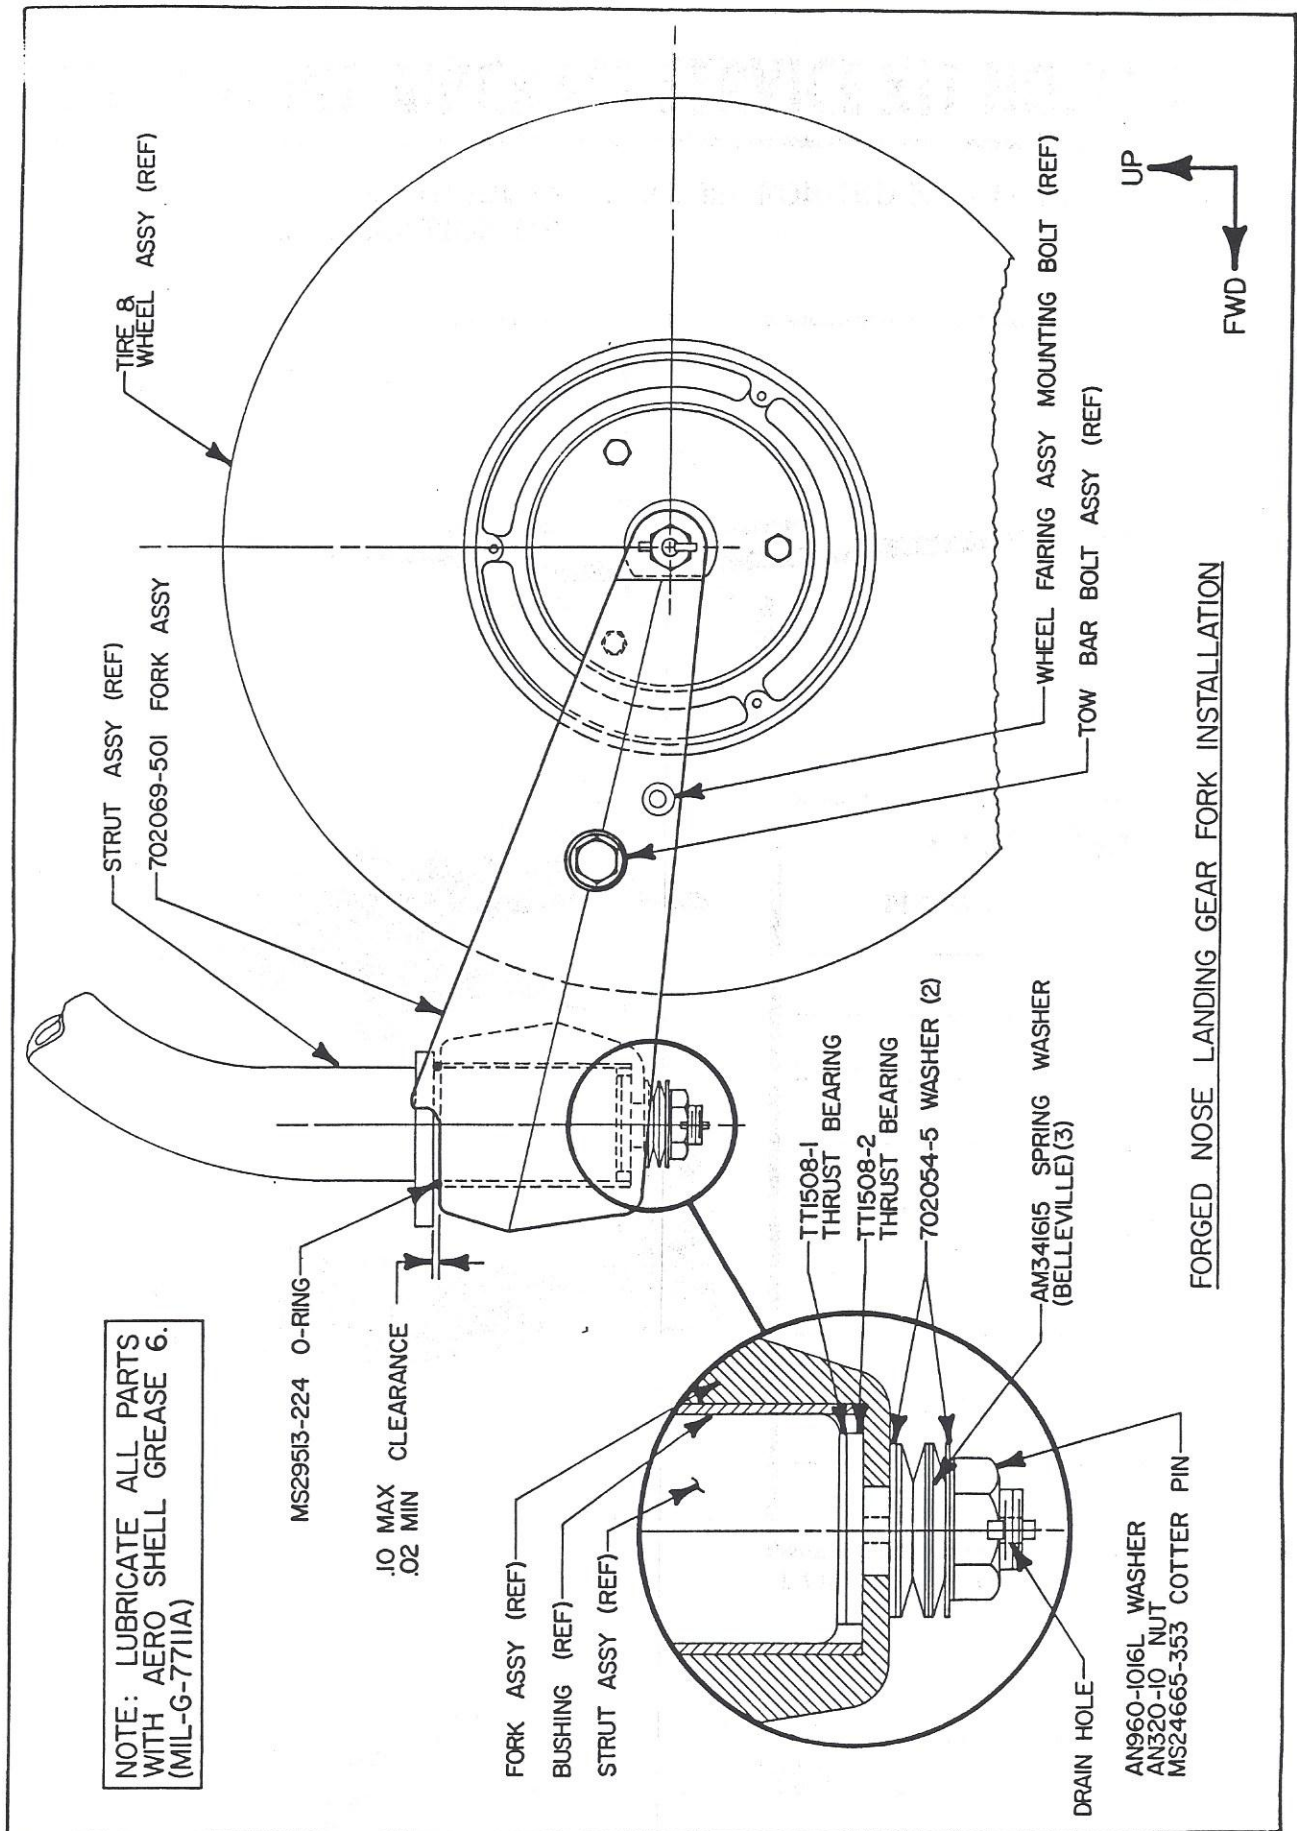

FIGURE 2
- C-4 Install built-up Fork Assy. on strut using new hardware as shown in Figure 2. Lubricate all parts with Aero Shell Grease 6 (MIL-G-7711A) prior to installation.